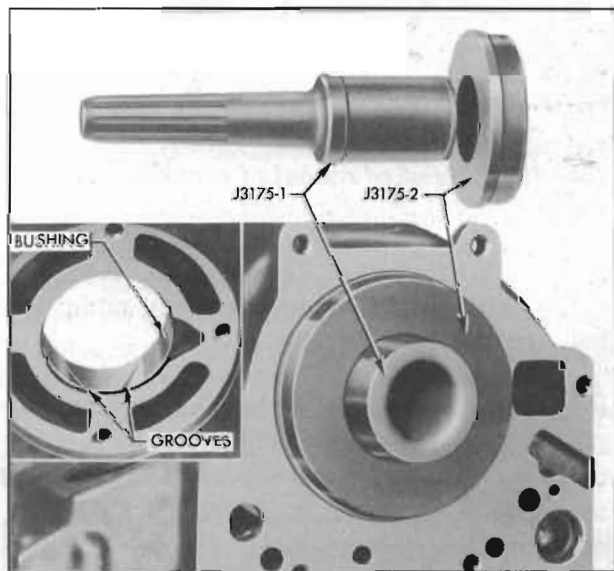

Figure 4-127—Transmission Case Bushing Remover and Replacer J 3175
5. To remove old bushing, place case over an opening with rear end down and drive bushing from case with J 3175-1. To install new bushing place J 3175-2 in rear oil pump recess of case to serve as a pilot, slip bushing over J 3175-1 and drive bushing into case from front side until bushing is flush with front surface of wall which supports the bushing. Bushing must be installed with the wide deep ends of oil grooves toward rear side of case. See figure 4-127.